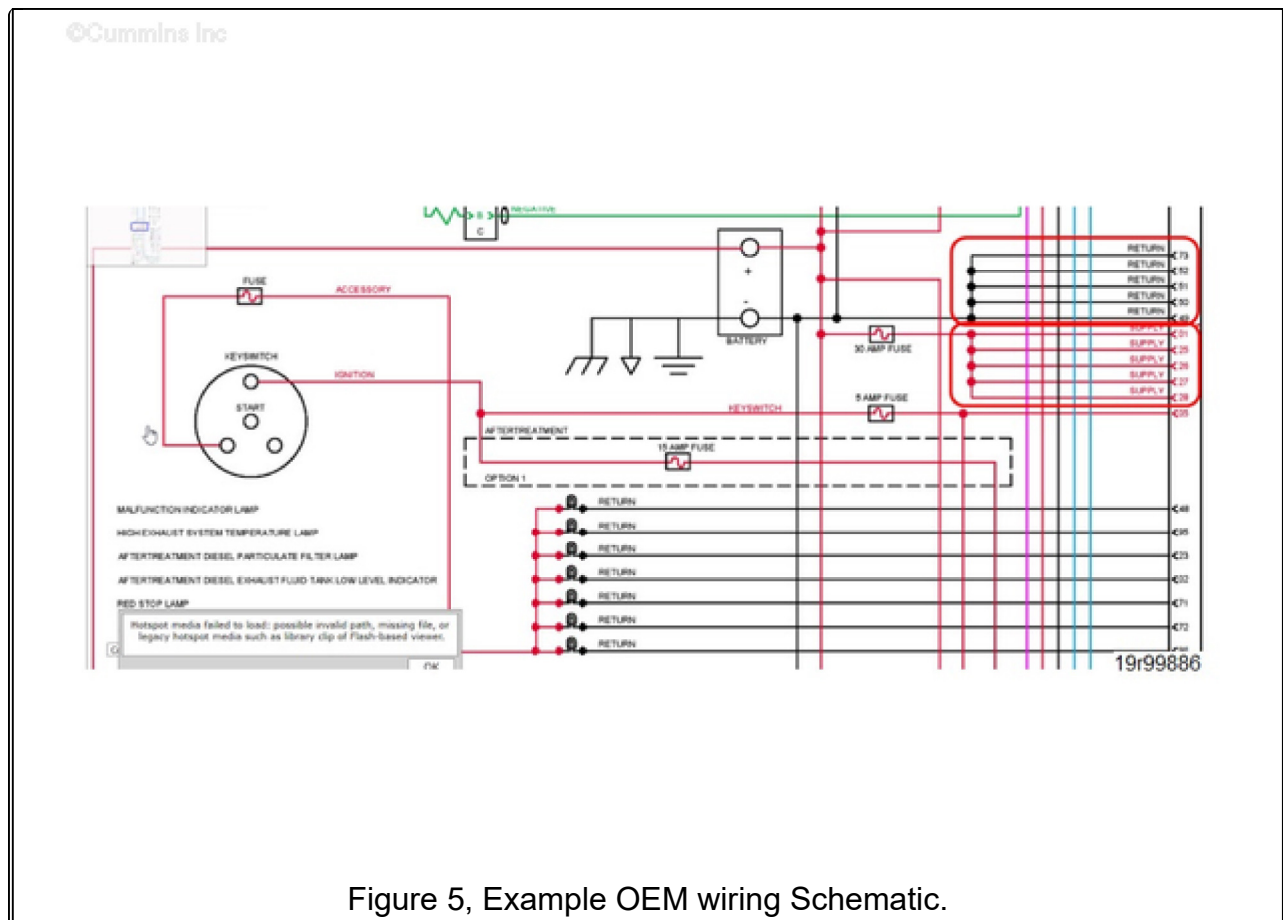

Figure 5, Example OEM wiring Schematic.
1. ECM Power Supply Loss: The ECM power supply (See Figure 5) is the 4 or 5 wires
2. ECM Power Supply Loss: The ECM power supply (See Figure 5) is the 4 or 5 wires that will be on the OEM J2 power for the engine control module (ECM).